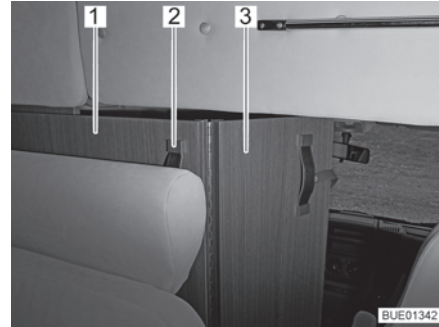

Fig. 52 Driver's cabin partition
- Grip the handle (Fig. 52,2) of the driver's cabin partition (Fig. 52,1) and pull it inwards until the edge of the driver's cabin partition is roughly level with the backrest of the bench seat (Fig. 52).
- Fold out the folding part of the driver's cabin partition (Fig. 52,3) between the seats of the driver's cabin.